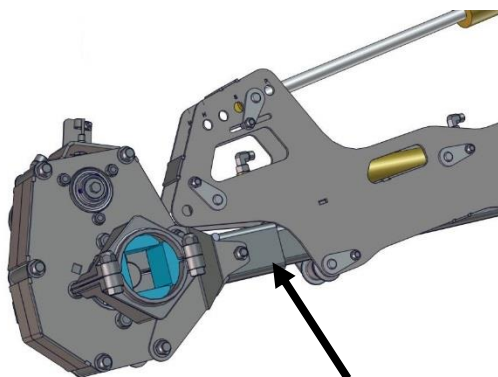

Figure 186
12. Once the gearbox is assembled install it back on the center arm. Make certain that the bolt holding the gearbox to the center reel arm is secured. Figure 186